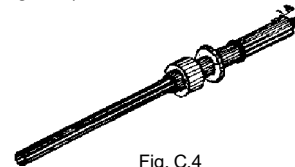

Fig. C.4
3) Insert the cable in the connector until it protrudes at least 1.5 mm on the other side (see Fig. C.4)